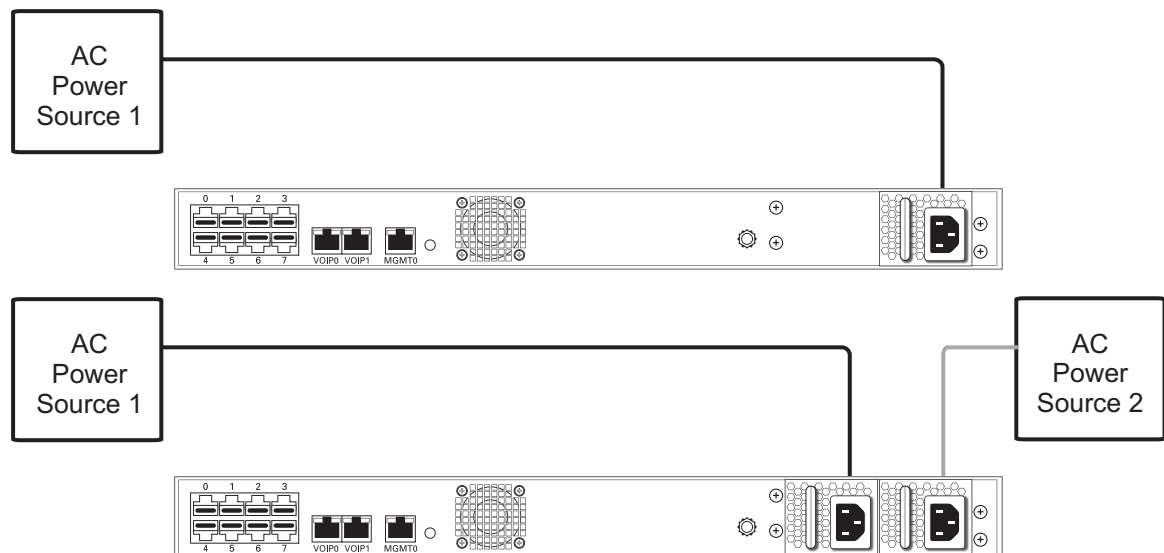

Figure 2.6 AC Power Connection
1. Connect an AC power cable between each AC connector of the TMG800 and an AC supply. See figure 2.6 on page 16.
Note If the TMG800 features a second power supply and it is not connected to an AC power source, press the green button located at the rear of the unit to disable the audible alarm. See figure 2.6 on page 16.